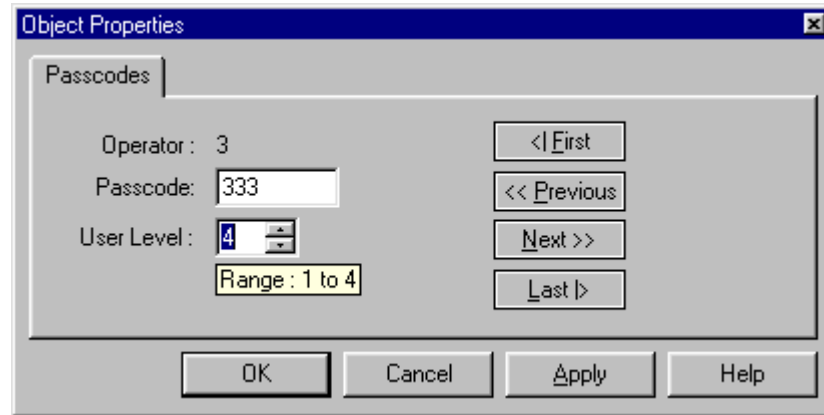

Figure 4-6. Passcode Dialog
3. Double click on the line corresponding to the passcode you want to add or edit. A screen similar to the one shown in Figure 4-6.